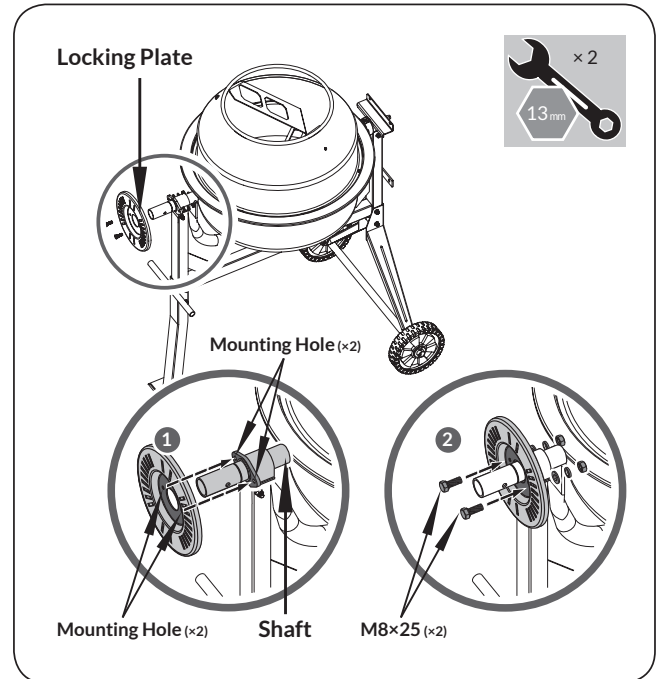

**Figure 4**
1. Place the upper drum onto the bottom drum by aligning both the mounting holes, and the labeled arrows. (See **Figure 4, Illustration 1 & 2**)
2. Insert a M8×20 cross headed screw into each mounting holes in the rim. Secure each screw from below with a flat washer, lock washer and nut. Make sure the tightening process is carried out progressively. (See **Figure 4, Illustration 3**)
4. A leather washer should be positioned inside between the drum and blade. Secure the mixing blade on the inside using a flat washer, spring washer and nut. (See **Figure 4, Illustration 4**)